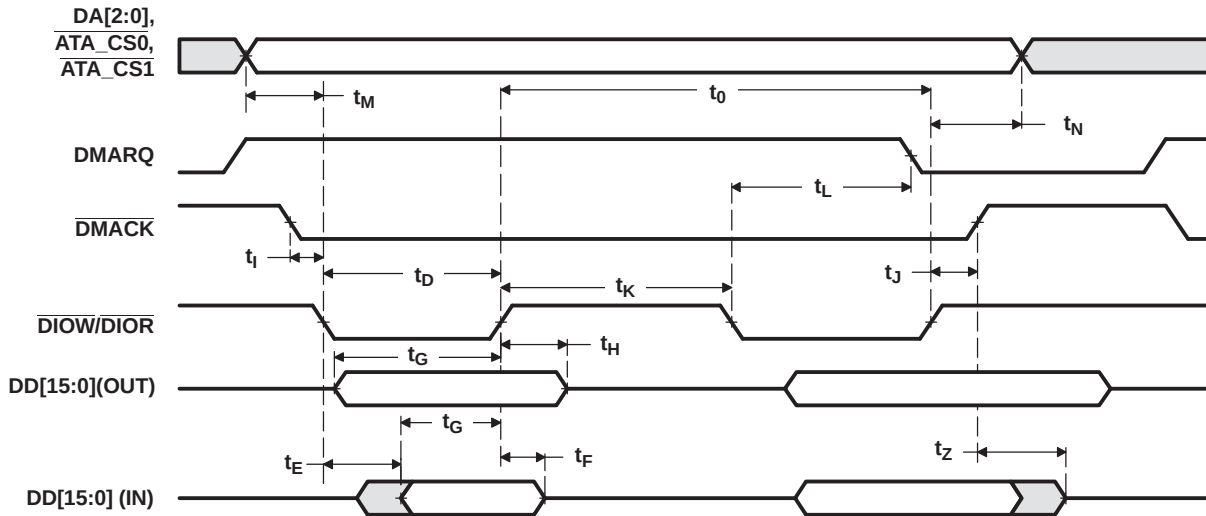

**Figure 6-27. ATA/CF Multiword DMA Timing**
Table 6-40. Timings for ATA/CF Module — Multiword DMA AC Timing(1) (2) (see Figure 6-27)